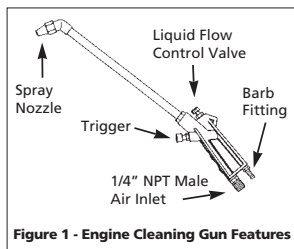

Figure 1 - Engine Cleaning Gun Features
2. Corrosion	2. Disconnect hose from tool and add two drops of mineral spirits through the barb fitting on the tool after each use (See Figure 1)